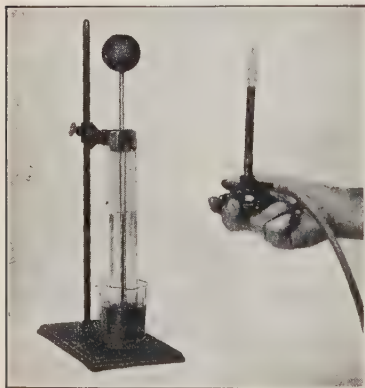

FIGURE 172. — TESTING RADIATION.
**EXPERIMENT 49.** — Blacken the bulb of an air thermometer by holding in the luminous bunsen flame. After the bulb is cooled and the index adjusted, hold a foot to one side of it an ordinary non-luminous bunsen flame (Figure 172). The index will remain stationary, showing